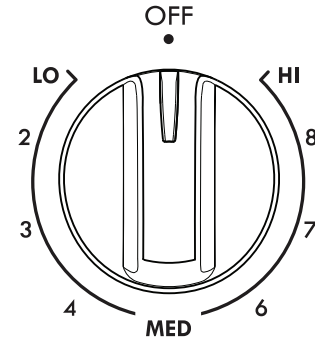

Figure 5: Surface control knob
2. Push in and turn the surface control knob in either direction (Figure 5) to the desired setting (refer to the “Suggested radiant surface element settings” table, Table 1).
Start most cooking operations on a higher setting and then turn to a lower setting to finish cooking. The surface control knobs do not have to be set exactly on a particular spot. Use the graphics provided as a guide and adjust the control knob as needed (see Figure 5). A glowing red surface heating area extending beyond the bottom edge of the cookware indicates the cookware is too small for the surface heating area.